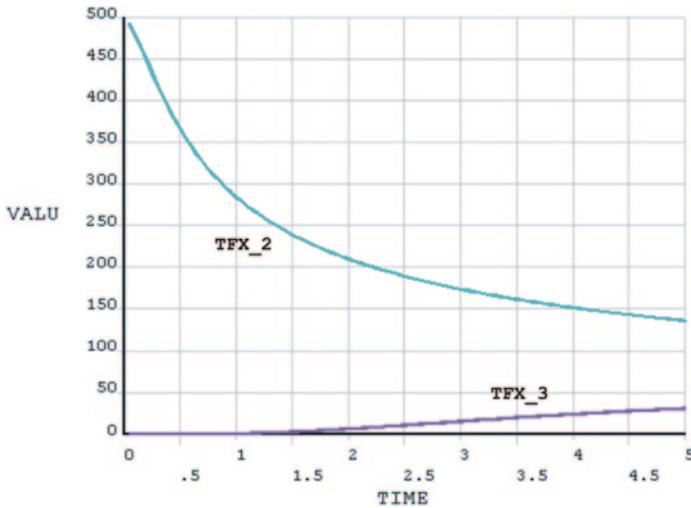

Fig. 5.38 Flux variation over time at two nodes
- The plot appears in the *Graphics Window*, as shown in Fig. 5.38.